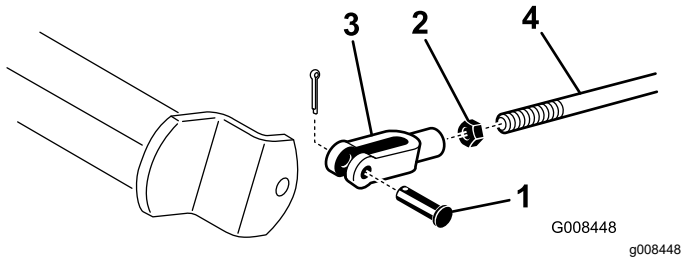

Figure 47
- A. Disconnect the brake rods by removing the cotter pin and clevis pin (Figure 47).
- B. Loosen the jam nut and adjust the clevis accordingly (Figure 47).
- C. Assemble the clevis to the brake shaft (Figure 47).